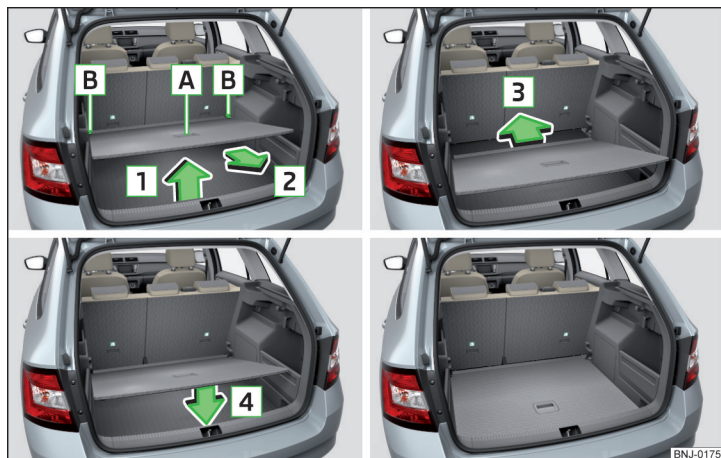

Fig. 107 Set the variable loading floor to the lower position
- Grasp the variable loading floor at handle **A** » Fig. 107.